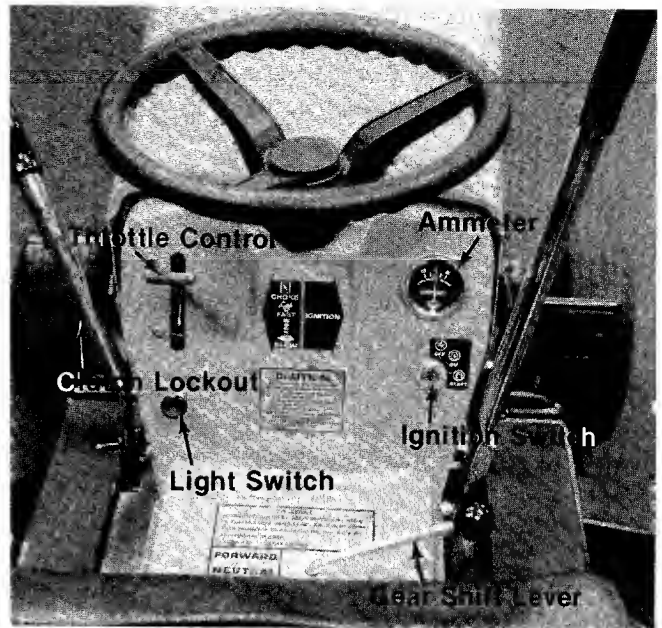

FIGURE 6.
a. **Throttle Control.** The throttle control is used to regulate the engine speed and choke the engine. The engine should be operated from  $\frac{3}{4}$  to full throttle when operating the cutting deck or snow thrower (optional). See figure 6.
b. **Gear Shift Lever.** The gear shift lever is used to shift into one of four Forward Gears, "NEUTRAL" or "REVERSE." See figure 6.
h. **Ammeter.** The ammeter registers the rate of battery charge or discharge. The ammeter should register on the plus side (+) when the engine is running the fast position until the battery is completely charged. With a fully charged battery or with the engine idling the ammeter will not show a charge. See figure 6.
i. **Light Switch.** Pull the light switch out to turn on the lights. The lights will only operate when the engine is running. See figure 6.
**Electric Start.** See figure 6. Turn the key to the "START" position to start the engine. When the engine is running, let the key return to the "ON" position. To stop the engine, turn the key to the left to the "OFF" position and remove it to prevent accidental starting.
4. Set the throttle control in the "CHOKE" position. See figure 6.
See figures 6 and 12. Turn the ignition key to the "START" position. When the engine is running, let the key return to the "ON" position.